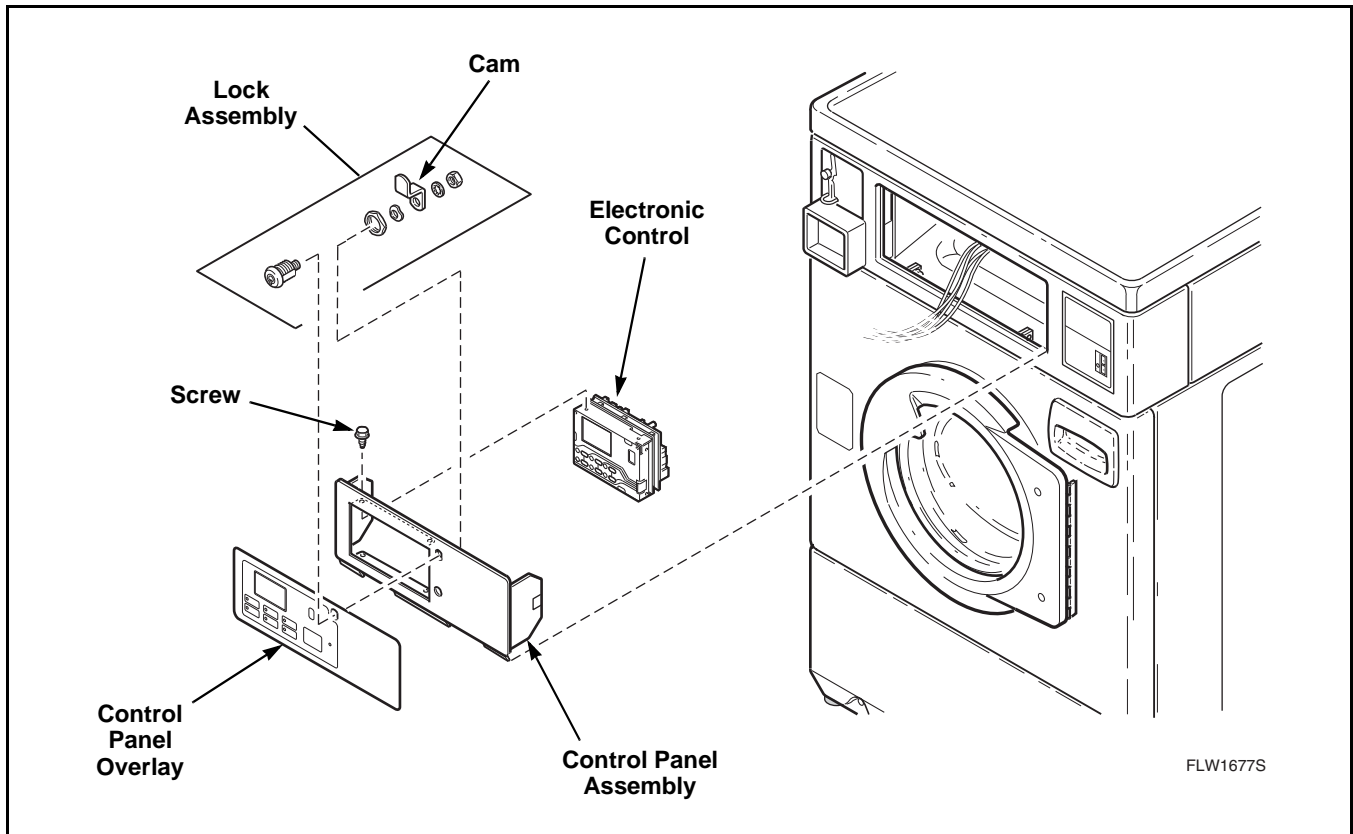

Figure 18
- e. Remove four screws holding electronic control assembly to backside of control panel. Refer to *Figure 18*.
- g. While holding new control by its metal edges, place control in opening of control panel and fasten control down with four screws removed in step "e". Refer to *Figure 18*.
NOTE: For proper control alignment, tighten the top two screws first then tighten the bottom screws. Refer to *Figure 18*.
- (5) Remove four screws holding electronic control assembly to backside of control panel. Refer to *Figure 18*.
- (6) Remove lock assembly from control panel. Refer to *Figure 18*. Remove control panel overlay by peeling it from the control panel assembly.
NOTE: Before removing protective backing from new overlay, check fit of overlay to control panel assembly. Refer to *Figure 18*. Use the lock hole in the control panel as the locating guide.
- (1) Once panel overlay is fitted to the front of control panel frame, carefully peel protective backing from the left end of panel overlay and press into place.
- (2) Remove rest of protective backing from panel overlay and press overlay into place on control panel assembly.
- (3) While holding control by its metal edges, place control in opening of control panel and fasten control down with four screws. Refer to *Figure 18*.
- (4) Follow wiring diagram and reconnect wires to control.